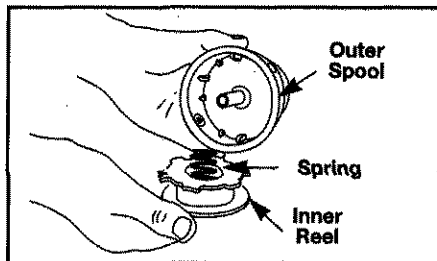

Fig. 13
2. Remove the inner reel (Fig. 13).